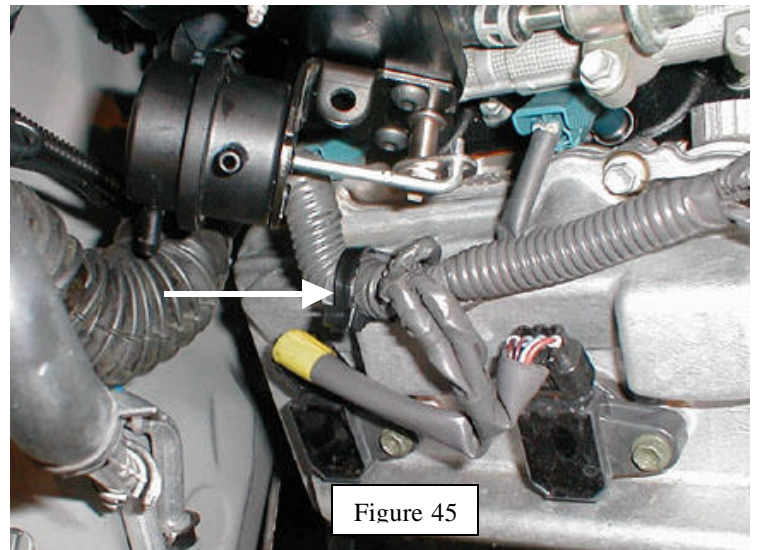

Figure 45
11. Use supplied cable tie to secure wire loom to cable tie mount (Figure 45).